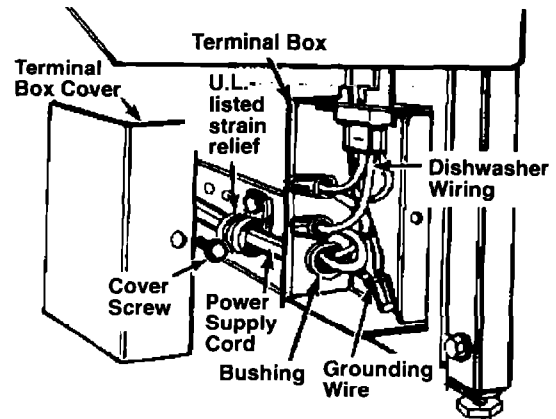

Figure 6
3. Remove twist-on wire connectors from the power cord wires and grounding wires. (See Figure 6.)